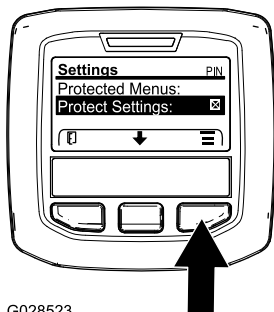

Figure 32
1. Access the protected menu and unlock the protected settings submenu (Figure 32); refer to Accessing Protected Menus \(page 15\).